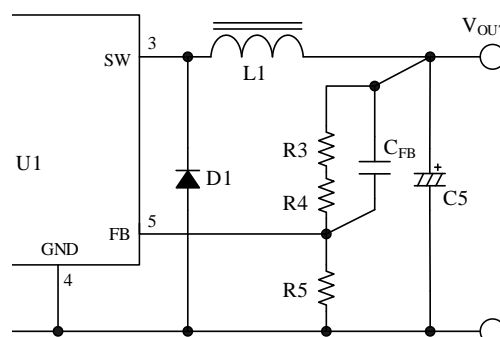

Figure 12-8. Using Electrolytic Capacitor
*When ESR is about 100 mΩ, C_{FB} connects to between FB pin and V_{OUT} as shown in Figure 12-8. The value of C_{FB} is about 220pF to 2200pF.